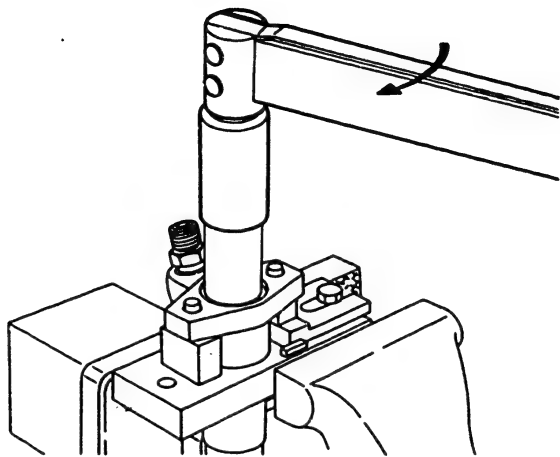

Fig. 41 Tightening the capnut
1. Tighten the capnut (16) to the specified torque. (Fig. 41).